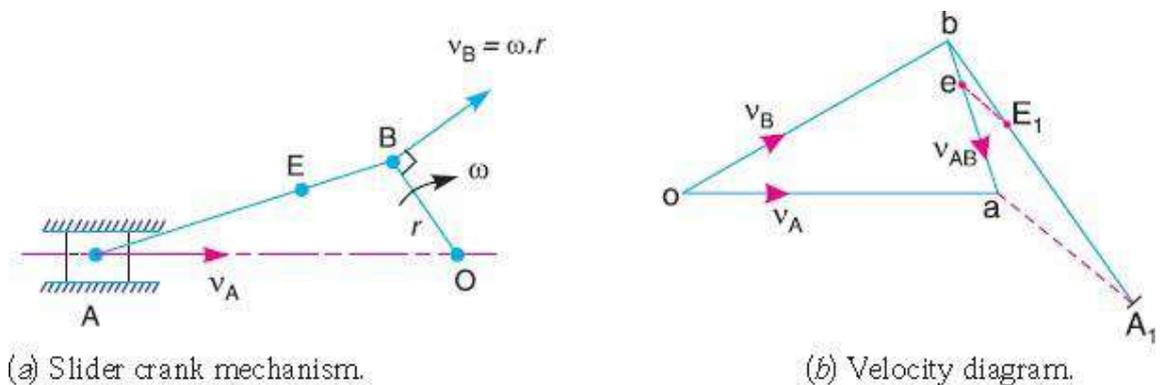

Fig. 3.5
- A slider crank mechanism is shown in Fig. 3.5 (a). The slider A is attached to the connecting rod AB. Let the radius of crank OB be  $r$  and let it rotate in a clockwise direction, about the point O with uniform angular velocity  $\omega$  rad/s. Therefore, the velocity of B i.e.  $v_B$  is known in magnitude and direction. The slider reciprocates along the line of stroke AO.
- 1 From any point o, draw vector ob parallel to the direction of  $v_B$  (or perpendicular to OB) such that  $ob = v_B = \omega.r$ , to some suitable scale, as shown in Fig. 3.5 (b).